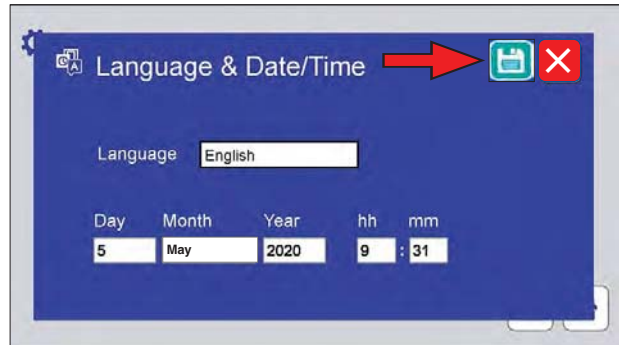

Figure 10.7p: Touch the save icon to save any changes to the Language & Date/Time.
- o Date/Time (Figure 10.7m through Figure 10.7p).